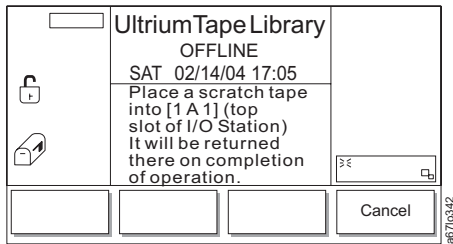

Figure 14-7. Verify Test Scratch Tape Dialog
7. When the correct value is selected, press the button below the **OK** softkey. The Verify Test Scratch Tape Dialog displays (see Figure 14-7 on page 14-8).